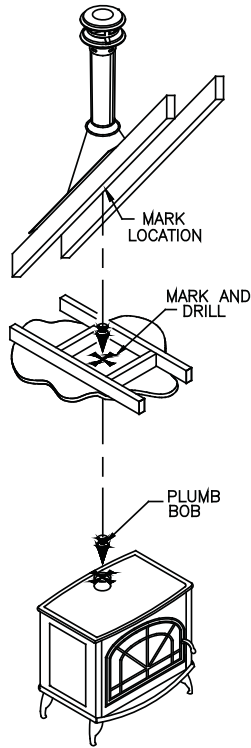
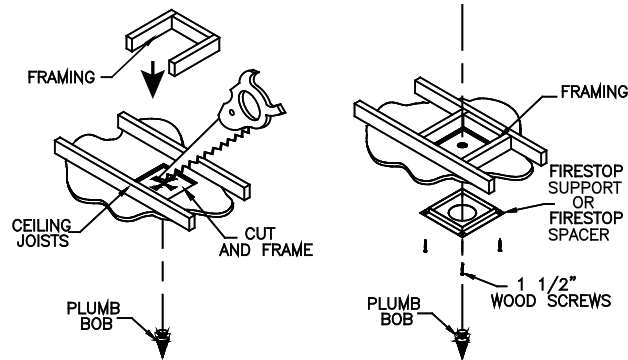

Figure 2
Figure 3
B. Drop a plumb bob to the center of the appliance flue outlet and mark center point on the ceiling (Figure 2). At your marked center point, cut and frame a square hole in the ceiling for installation of the Ceiling Support or Firestop Spacer (Figure 3). Refer to Table 1 for the dimensions of the hole.